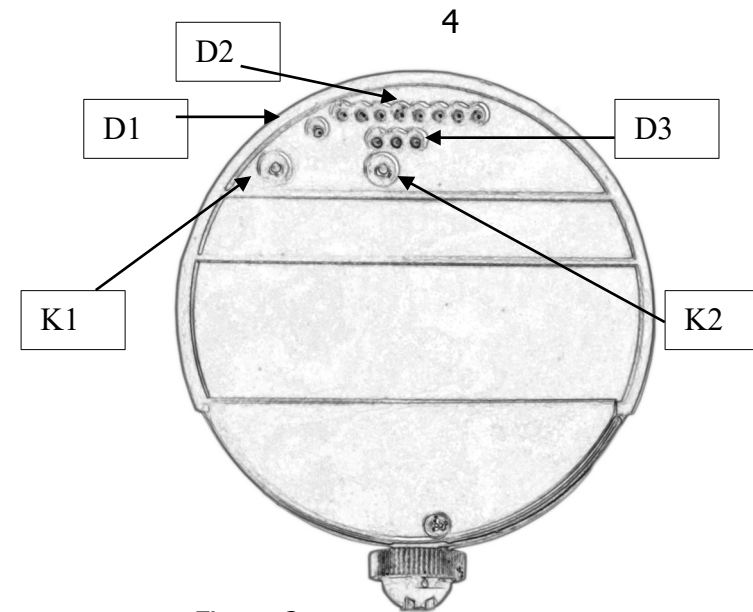

Figure 2
- Switch on the device by pushing the K1 button, the Power On LED D1 indicator will light green (Fig.2). Point the antenna system in a direction where there are no any objects at a distance of at least 2 meters. Then LED D2 indicator goes off (the rarely flashing of the first LED D2 indicator is acceptable).
Description of the buttons and scales are shown in Figure 2.